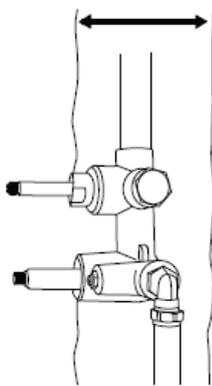

Fig 1
1. A rectangular hole approximately 200mm - 160mm diameter will be sufficient to fit the mixer valve. The valve should be fixed to the wall between 75mm and 90mm below the finished surface of the shower (Fig 1)